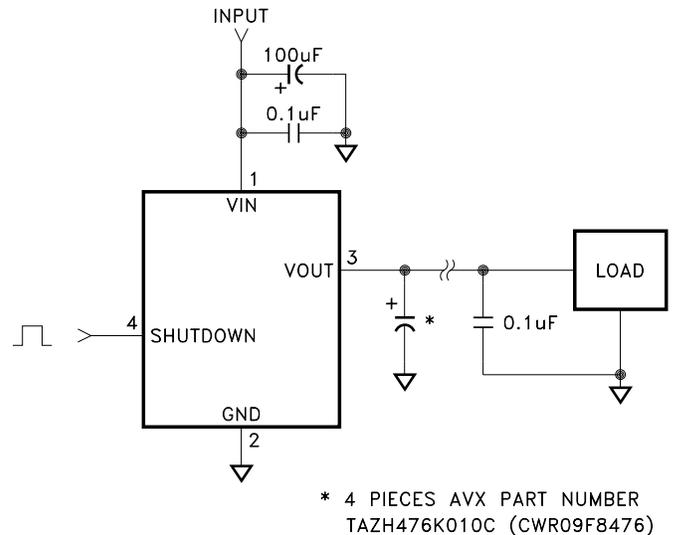

FIGURE 2
- ① Unless otherwise specified, VIN = VOUT + 1V, VSHUTDOWN = 0V and IOUT = 10mA. See figure 2 for typical test circuit.
- ② Guaranteed by design but not tested. Typical parameters are representative of actual device performance but are for reference only.
- ③ Industrial grade and "E" suffix devices shall be tested to subgroups 1 and 4 unless otherwise requested.
- ④ Military grade devices ("H" and "K" suffix) shall be 100% tested to subgroups 1,2,3 and 4.
- ⑤ Subgroup 5 and 6 testing available upon request.
- ⑥ Subgroup 1,4 TC = + 25°C